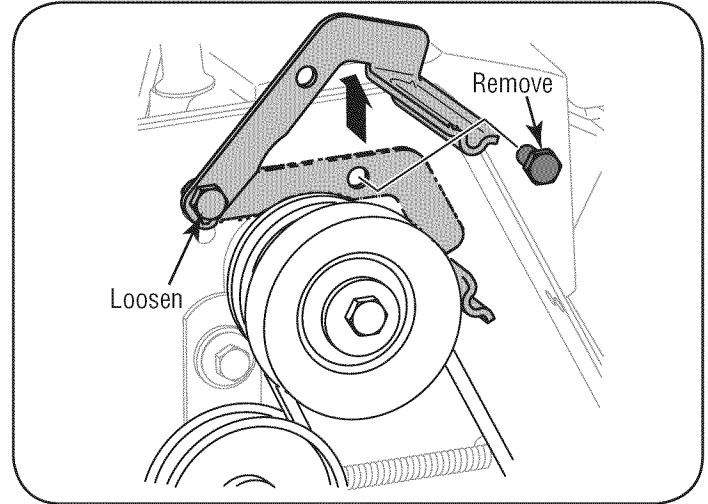

Figure 25
3. Loosen the bolt shown in Figure 25 securing the belt keeper bracket and remove the other bolt. Push the belt keeper and bracket up off the engine pulley.